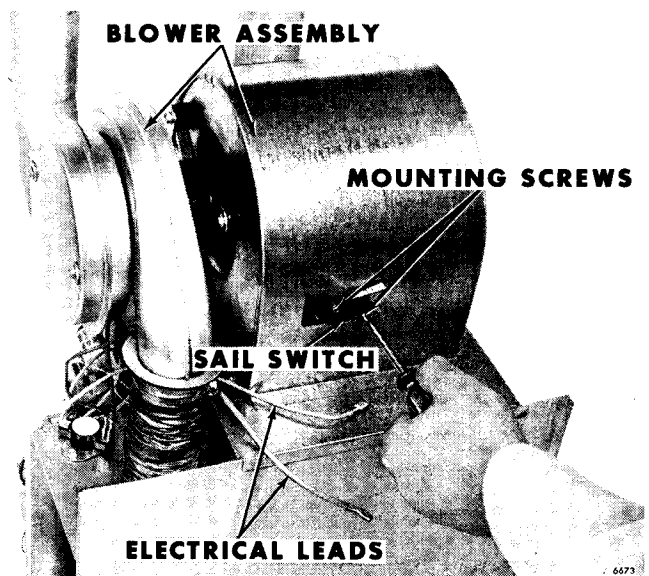

Figure 14—Removing Sail Switch
NOTE: The sail switch (also sometimes called combustion air switch) is located on the bottom of the blower assembly (figure 14).
2. Disconnect electrical leads from sail switch (figure 14).